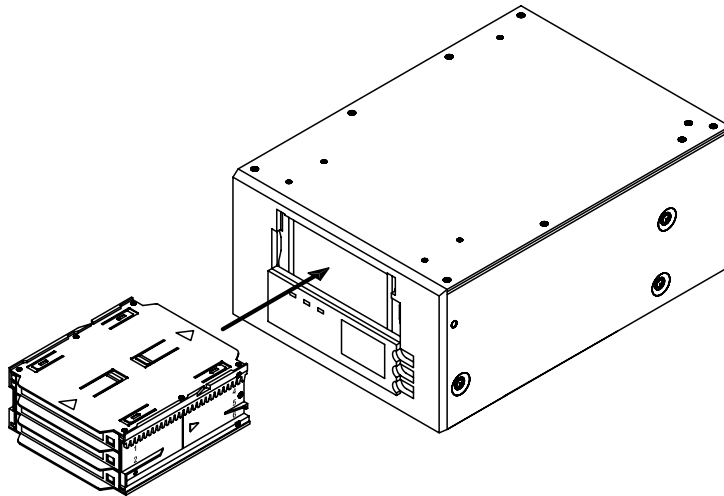

Figure 13. Loading a magazine into the autoloader
4. Insert the magazine into the autoloader with the triangles facing into the autoloader bay, as shown in Figure 13. Gently push the magazine into the autoloader bay until the autoloader mechanism senses the magazine and pulls it inside.